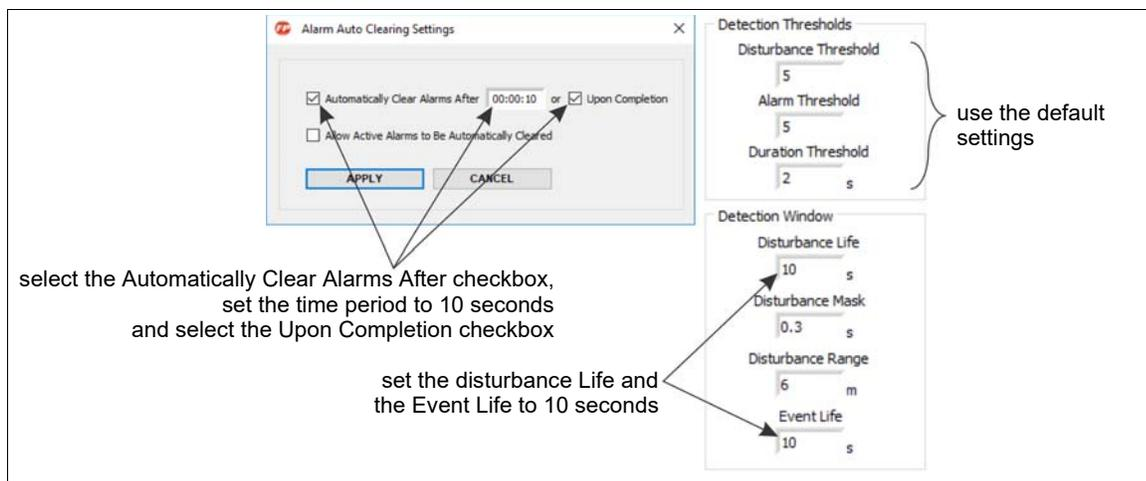

Figure 10 Temporary settings for location calibration
2. Select Configure > Alarm Auto Clearing and check the Automatically Clear Alarms and Upon Completion checkboxes. Set the time to 10 seconds and apply the changes (see Figure 10).